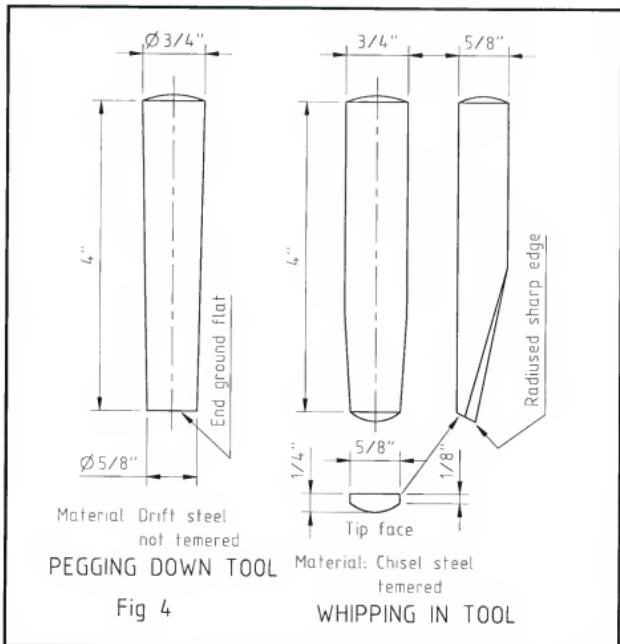

Fig 4
3. Install a new stay. Application of a new stay was achieved using the same technique as was used when the boiler was built. The only difference to note was that the outer end could not be worked with the rotary gun, so hand riveting was required, the end then being pegged-down and whipped-in. A pegging-down tool was usually a drift of $\frac{3}{8}$ " diameter and 4" long. A whipping-in tool was made from chisel steel and was also about 4" long. See figure 4.